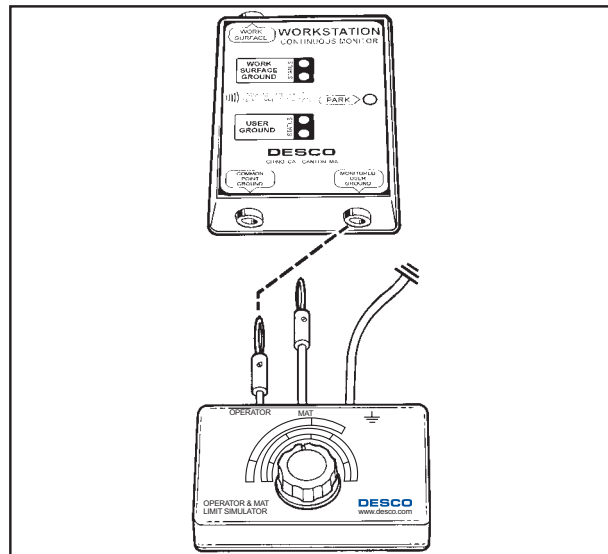

Figure 2. Connecting test lead from 98220 to 19225.
**Step 2:** Insert the calibration unit's banana plug marked "Operator" into the jack marked "Monitored User Ground" on the 19225 tester. See figure 2.